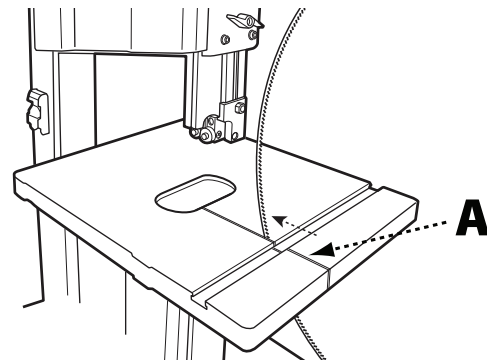

FIGURE 7
- Locate the blade tensioning knob (B) at the top of the machine and turn it counterclockwise several rotations to lower the upper flywheel.
- Carefully feed the blade through the slot in the table (A), ensuring that the blade teeth are pointing down toward the table. See Figure 7.
- Carefully slide the blade through the upper slot (B) and lower slot (C) located to the right of the wheel guard.